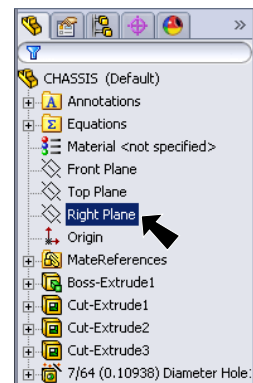

Fig. 40
Step 5. Click **Right Plane**  in the Feature Manager to select Plane, **Fig. 40**.